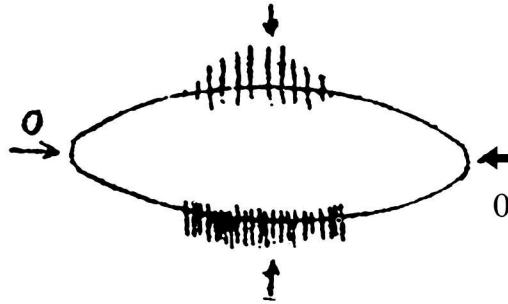
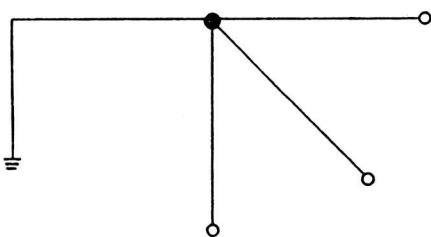

Fig. 20b
Fig.31a
3) For reliable single point grounding, the test loop system or the whole shield body shall be designed as single point grounding structure, and the grounding resistance shall be small. The grounding point shall be separated from the ground grid and power grid neutral line of general laboratory. As shown in Fig. 31a, it is a single point grounding, while the grounding mode in Fig. 20b is easy to form loop ground current and cause interference.